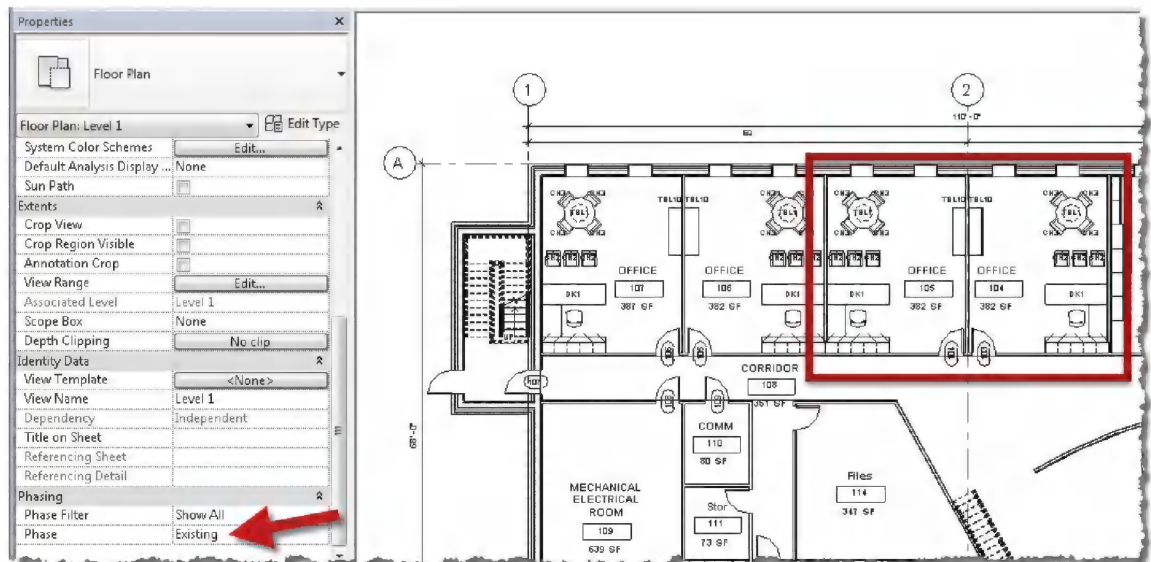

FIGURE 16-3.1 Level 1 floor plan with Phase set to existing
2. Ensure the **Level 1** floor plan view is open (Figure 16-3.1).